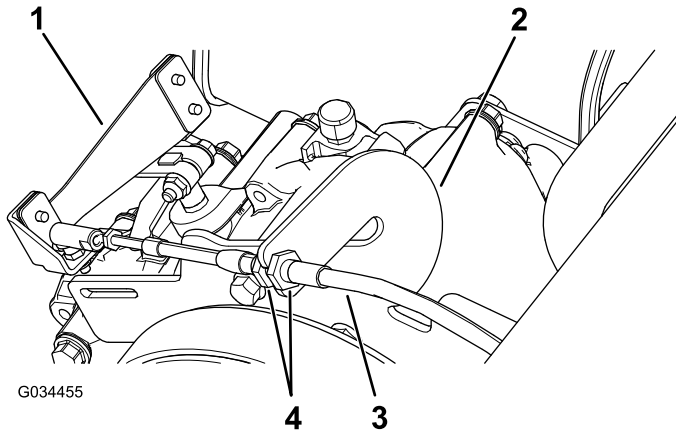

Figure 59
1. Loosen the jam nuts on the gear-shift cable and adjust them as necessary (Figure 59).
2. Test the gear-shift position by rotating the gear-shift selector to the 3 different positions and check to see if the shift lever (Figure 59) shifts properly when shifting the gears; refer to Gear-Shift Lever and Gear-Shift Indicator (page 13).